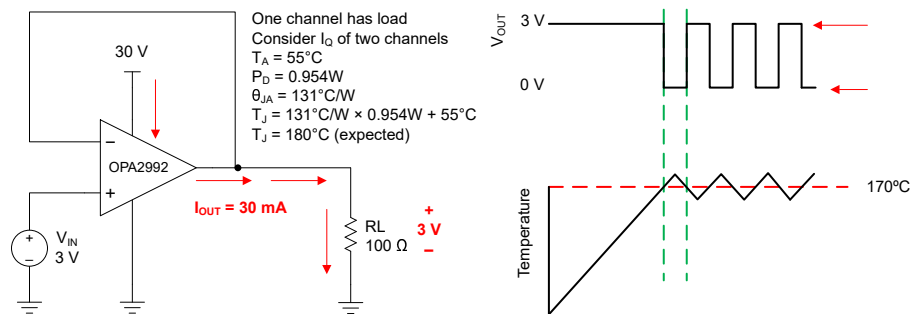

Figure 6-4. Thermal Protection
The internal power dissipation of any amplifier causes its internal (junction) temperature to rise. This phenomenon is called *self heating*. The absolute maximum junction temperature of the OPAx992 is 150°C. Exceeding this temperature causes damage to the device. The OPAx992 has a thermal protection feature that reduces damage from self heating. The protection works by monitoring the temperature of the device and turning off the op amp output drive for temperatures above 170°C. Figure 6-4 shows an application example for the OPA2992 that has significant self heating because of its power dissipation (0.954 W). In this example, both channels have a quiescent power dissipation while one of the channels has a significant load. Thermal calculations indicate that for an ambient temperature of 55°C, the device junction temperature reaches 180°C. The actual device, however, turns off the output drive to recover towards a safe junction temperature. Figure 6-4 shows how the circuit behaves during thermal protection. During normal operation, the device acts as a buffer so the output is 3V. When self heating causes the device junction temperature to increase above the internal limit, the thermal protection forces the output to a high-impedance state and the output is pulled to ground through resistor  $R_L$ . If the condition that caused excessive power dissipation is not removed, the amplifier will oscillate between a shutdown and enabled state until the output fault is corrected. Please note that thermal performance can vary greatly depending on the package selected and the PCB layout design. This example uses the thermal performance of the SOIC (8) package.